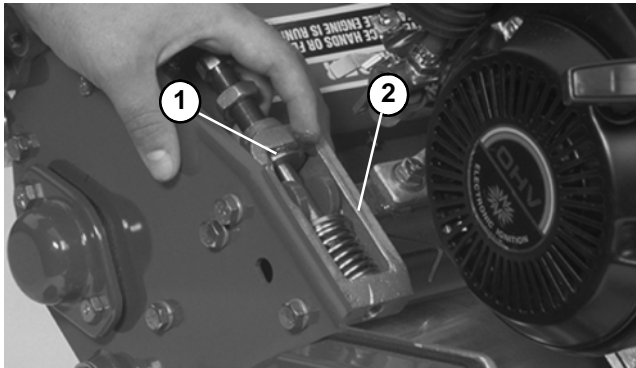

Figure 27
2. Use grease to hold thrust washers against the inside of both frame adjusters (Fig. 27).